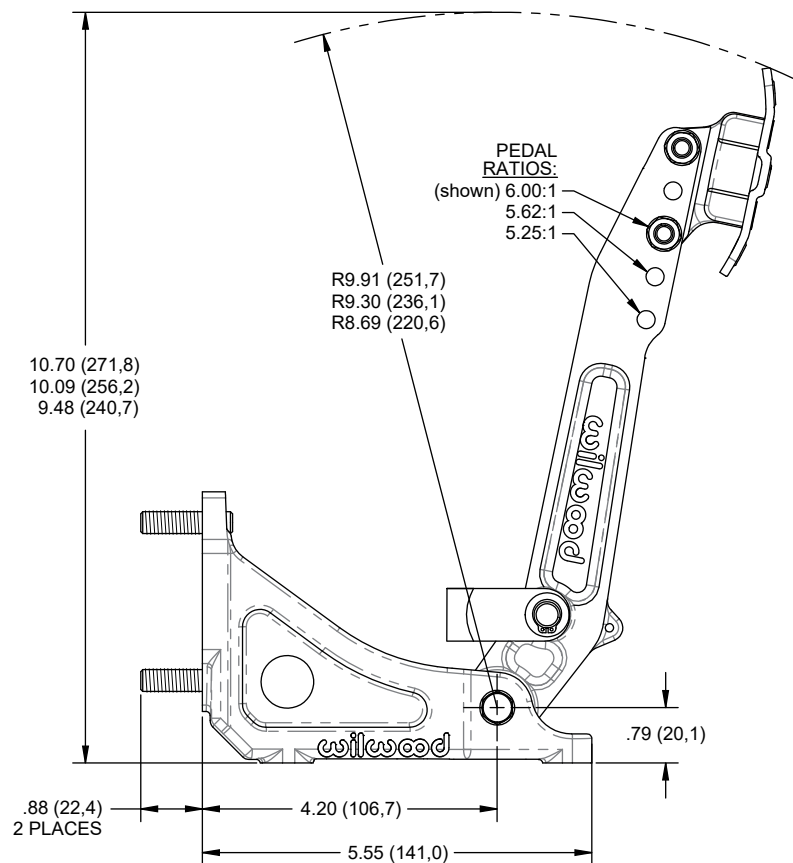

Figure 1a. Forward Floor Mount Clutch Pedal Assembly, Physical Dimensions, 5.25:1 to 6.00:1 Ratio (P/N 340-16378)
•Wilwood's forward floor mount clutch pedal assembly must be mounted using the two .33" diameter mounting holes as shown in Figures 1a & 1b. Attach the pedal assembly to a sturdy beam or plate with two 5/16" bolts. Pedal assembly must be rigidly attached to frame and not deflect under heavy pedal forces. **NOTE:** Pedal must be free from obstructions over the entire range of motion. Allow enough space so pushrod adjustments can be made and master cylinder is accessible.